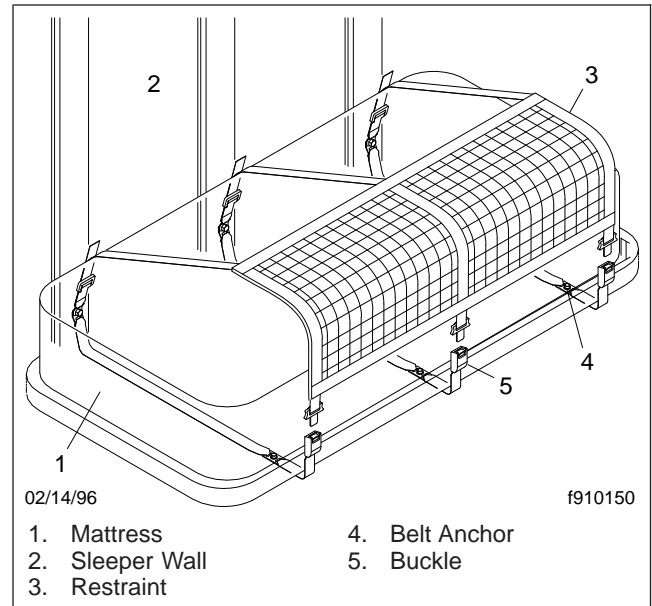

Fig. 5.14, Bunk Restraint
1. Starting at the foot of the bunk, pull up the link end of the belt far enough to engage the buckle. See Fig. 5.14.